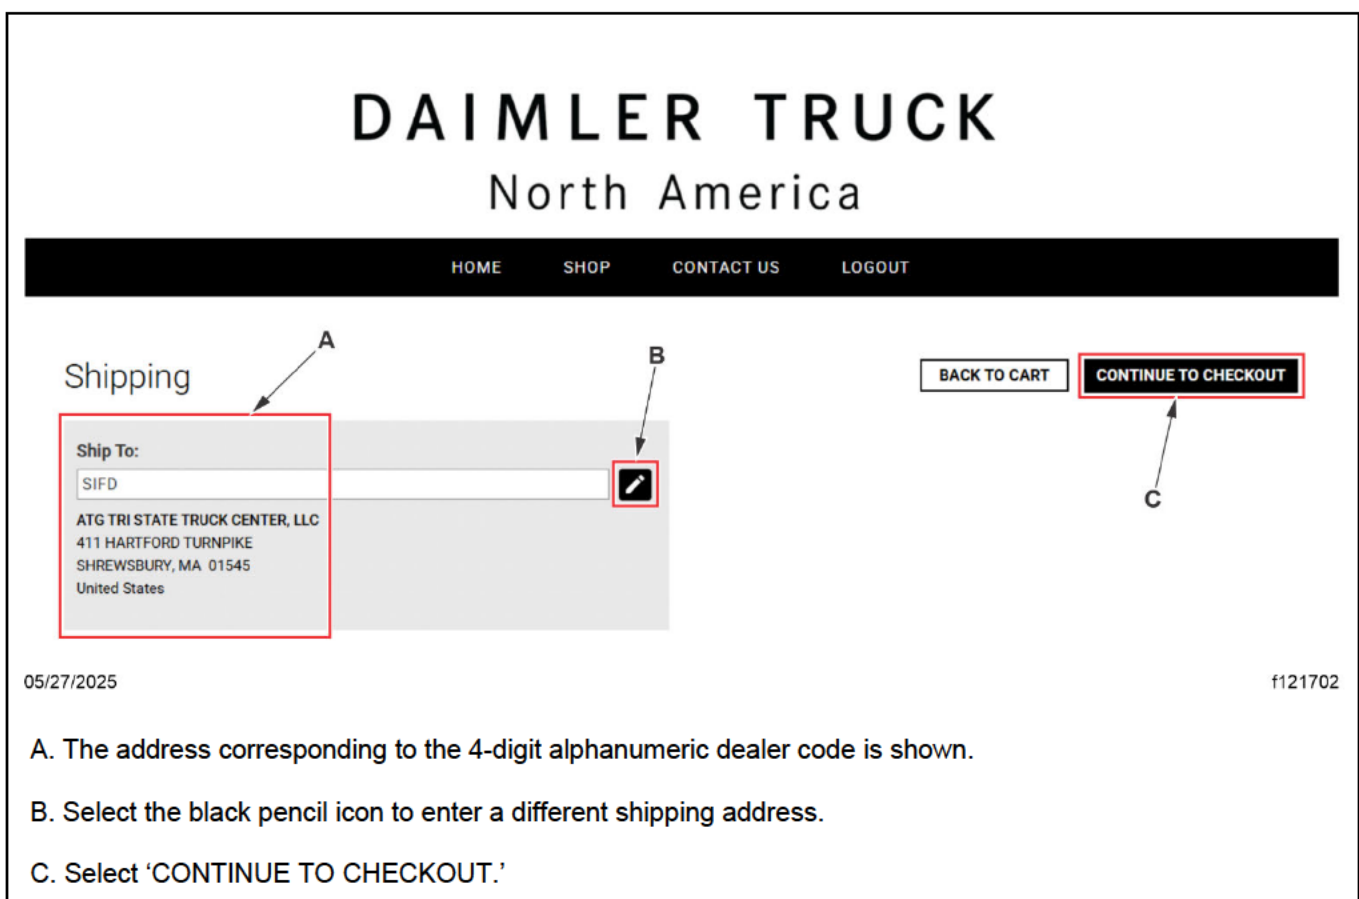

Fig. 9, Shipping Screen
10. On the 'Shipping' screen, the address for the corresponding 4-digit alphanumeric dealer code used to log in is shown. See Fig. 9.
- 10.1. If a different shipping address, such as a central location for the dealer family, needs to be entered, select the black pencil icon to the right-hand side of the dealer code. See Fig. 9.
- 10.3. If the shipping address is correct, select 'CONTINUE TO CHECKOUT.' See Fig. 9.